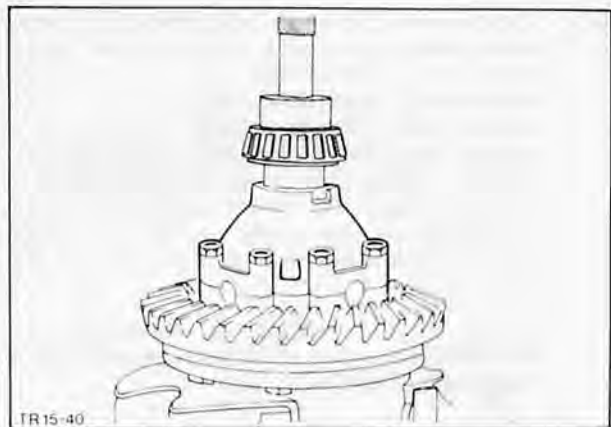

Fig. 44. Press on taper roller bearing with special tool no. 15-031
30. Fit both differential housing taper roller bearings with Special Tool No., Fig. 44.